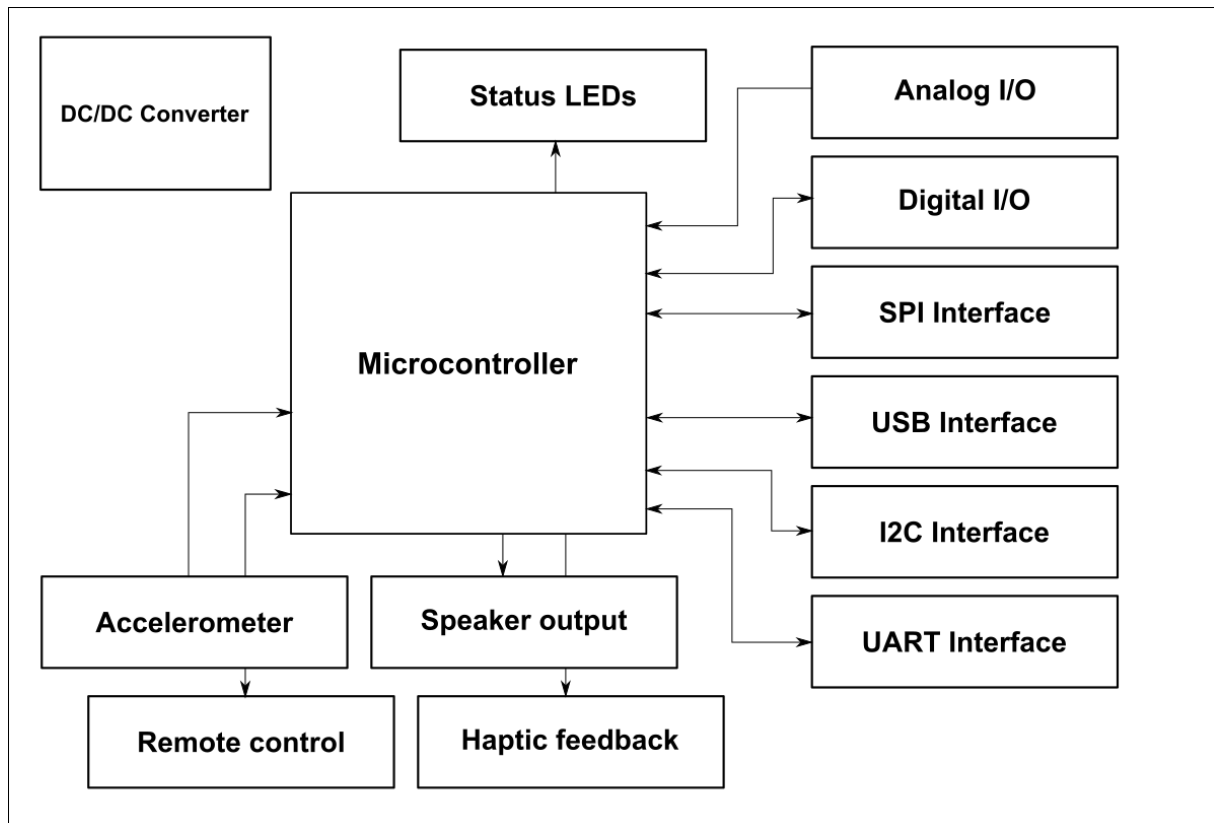

Figure 2. Block schematic of embedded platform.
The development platform contains of one PCB board that is distributed in the paper package. The dimensions of PCB is 42 x 50mm and contains of many ready-to-use components that help with the didactical aid development and implementation. The board could be divided into several small sections (see Figure 2). The heart of the platform is ATxmega32A4U microcontroller. For powering the device the DCDC converter from various input voltage to 3.3V is implemented. The interconnection to the microcontroller is provided by followed blocks:
be flashed through PDI connector CN2. There are two LEDs connected to the microcontroller through the series resistors. These could be used as a “status” LEDs providing optical feedback to user. Microcontroller’s pins are divided into 5 segments that respect the block figure 2. These are: Digital IOs, Analog IOs, SPI Interface, I²C Interface, and UART Interface. Through these blocks it is possible to expand the base board with several external functional blocks.
- 1) MCU Initialization – basic setting of microcontroller based on Block schematic (Figure 2)